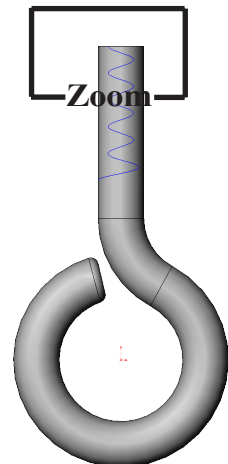

Fig. 21
Step 3. Zoom in around **top end of the eye screw**, Fig. 21. To **zoom**, hold down **Shift** key and drag with middle mouse button (wheel). To **pan**, hold down **Ctrl** key and drag with middle mouse button (wheel).